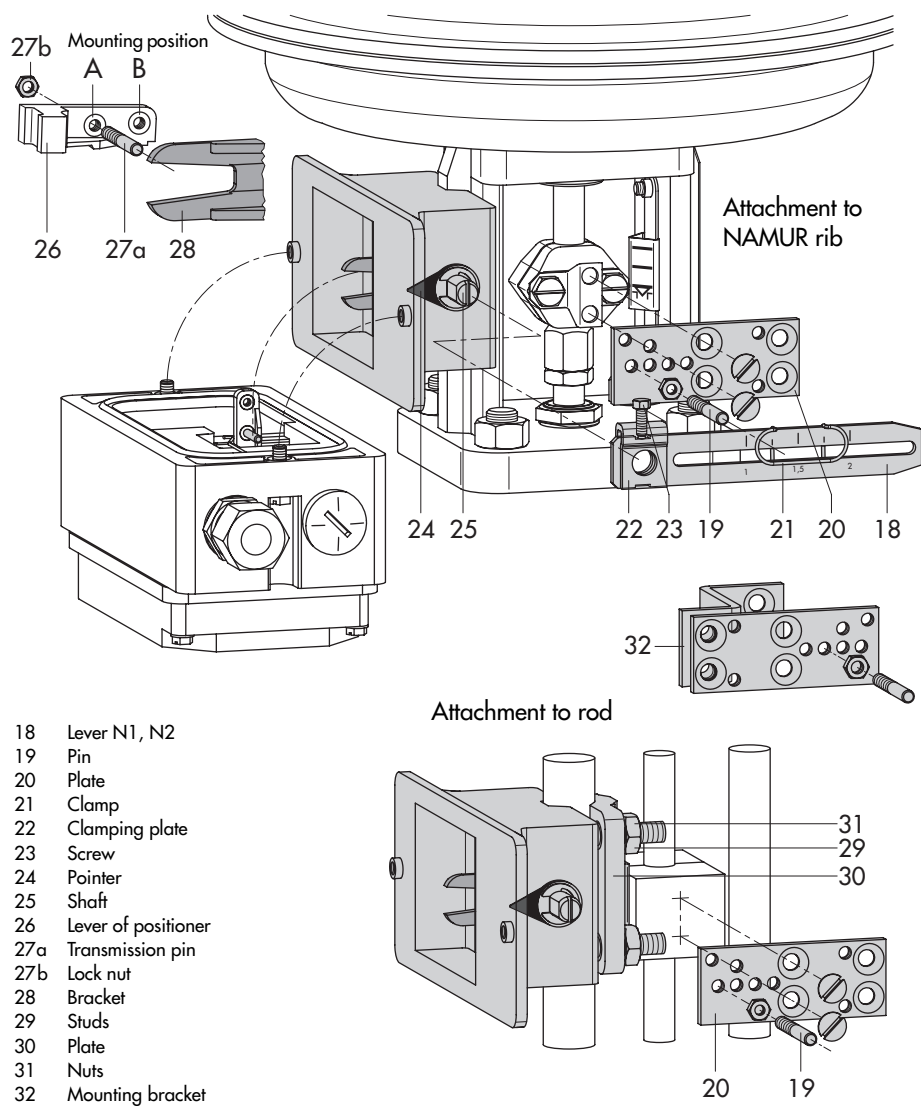

Fig. 4 · Attachment according to IEC 60534-6 (NAMUR)
The positioner is attached according to NAMUR as shown in Fig. 4 using an adapter housing. The valve travel is transmitted via the lever (18) and the shaft (25) to the bracket (28) in the adapter housing and then to the coupling pin (27) located on the lever of the positioner.
insert nuts and secure the pin on the other side with a hex nut. Observe the mounting position **A** or **B** explained in Table 5 and Fig. 4.